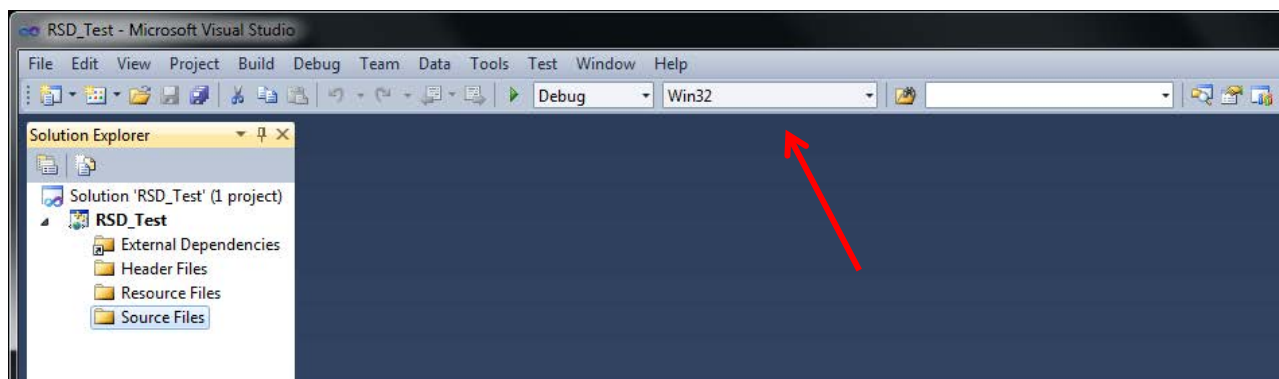

Figure 22 The Solutions Platform dropdown list is shown
- The computer EN212-001 attached to the ER9 robot operates on Windows 7 64-bit. Click on the “Solution Platforms” dropdown list from the toolbar and select “Configuration Manager” (see Figure 22).